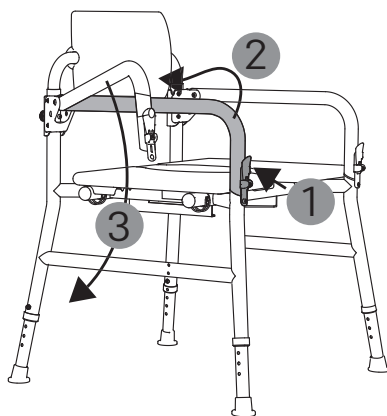

Fig. 20
2. To swivel the side element, release the locking lever by pulling it towards you (1, Fig. 20).
3. Release the side element from its fastener by lifting it up and to the side (2, Fig. 20).
4. The side element can now be swivelled down (3, Fig. 20).